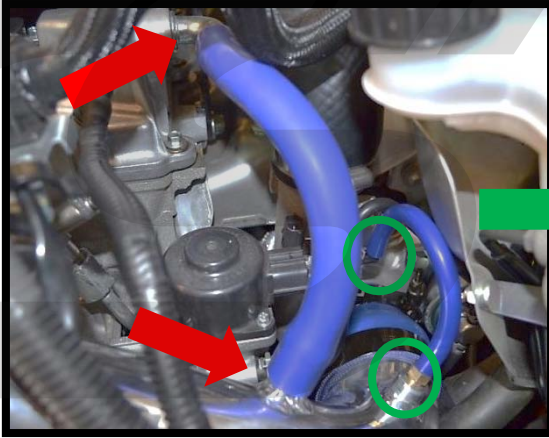

Figure 5c
- c) Connect the supplied small ID silicone hose from the brass nipple to the boost control solenoid (green circles in Figure 5c).
- d) Connect the supplied large ID silicone hose to the valve cover and the large port on the TIP (red arrows in Figure 5c).